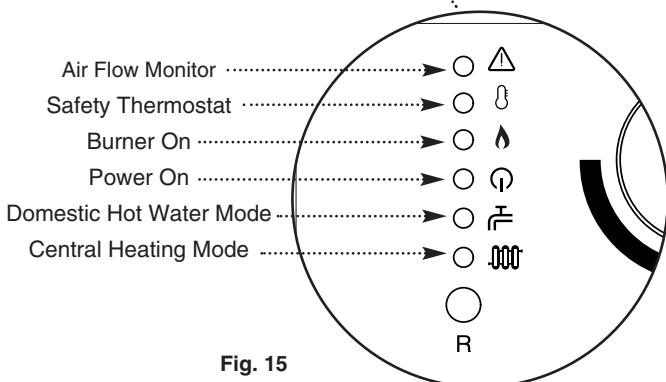

Fig. 15
2. On starting the boiler the indicator () will be on while the sensor checks that the fan is functioning correctly (Fig. 15).
2. If the device operates, the safety thermostat indicator will light () and the boiler will shut down (Fig. 15).
3.5 Burner On Indicator (Fig. 15)
3.6 Supply Indicators (Fig. 15)